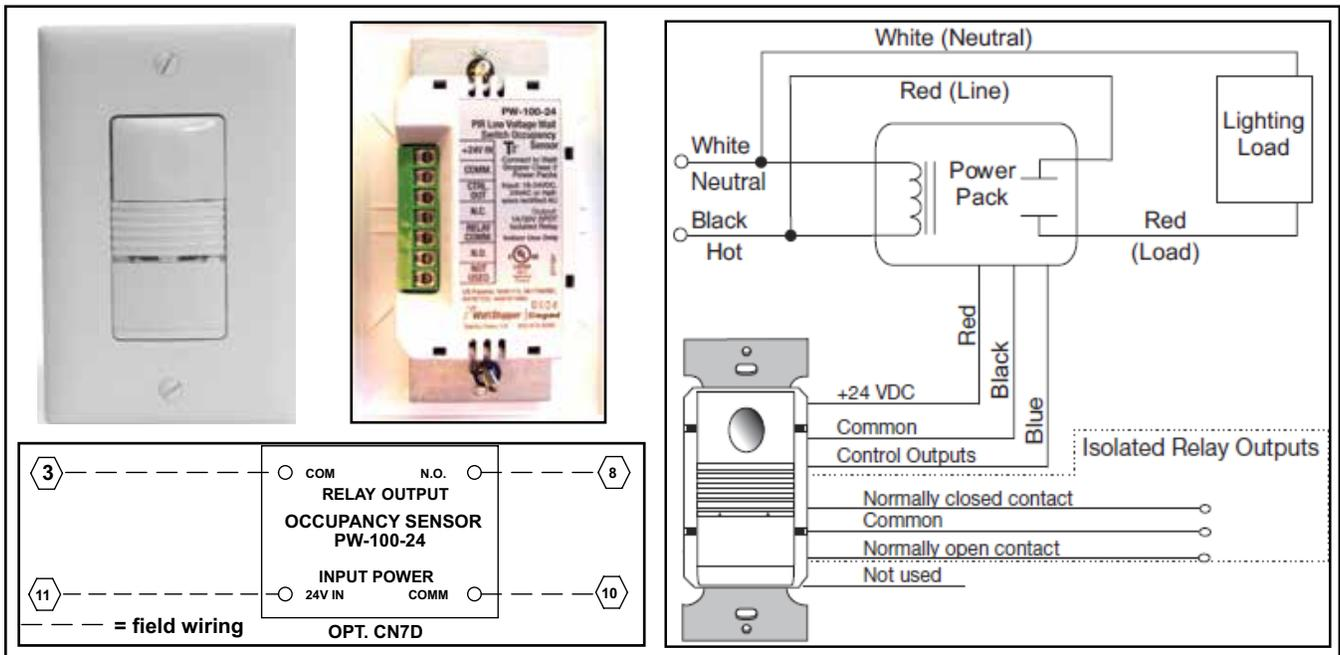

Figure 26. Occupancy Motion Sensor Switch (Option CN7D) with Wiring Connections
The space-mounted occupancy motion sensor (PN 260195, see Figure 26) with manual ON/OFF override switch is well suited for small enclosed spaces with a clear line of sight of the occupants. In AUTO-ON mode, the unit will start or stop based on occupancy. The passive infrared sensor features an adjustable 5- to 30-minute sensing window to prevent nuisance switching. The sensor has a manual ON/OFF override feature providing manual ON/OFF control. Install the occupancy motion sensor as follows:
3. Four wires are required from ventilation unit control panel to wall sensor. Refer to wiring diagram provided with ventilation unit and Figure 26 to run wires and make necessary connections.